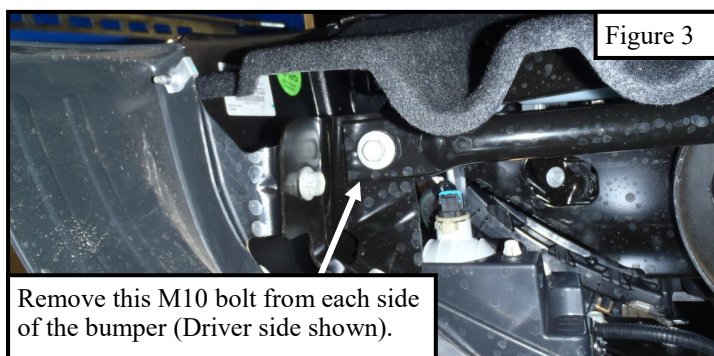

Figure 3
4. Remove the front bumper assembly. See Figures 3 and 4.